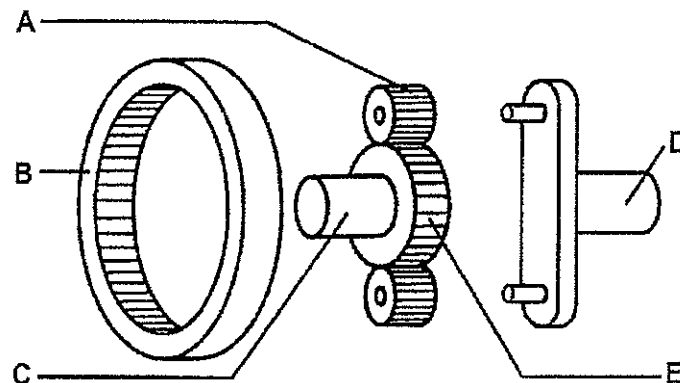

FIGURE 2
- 1.3 Refer to FIGURE 2 of the gear system below and answer the questions that follow.